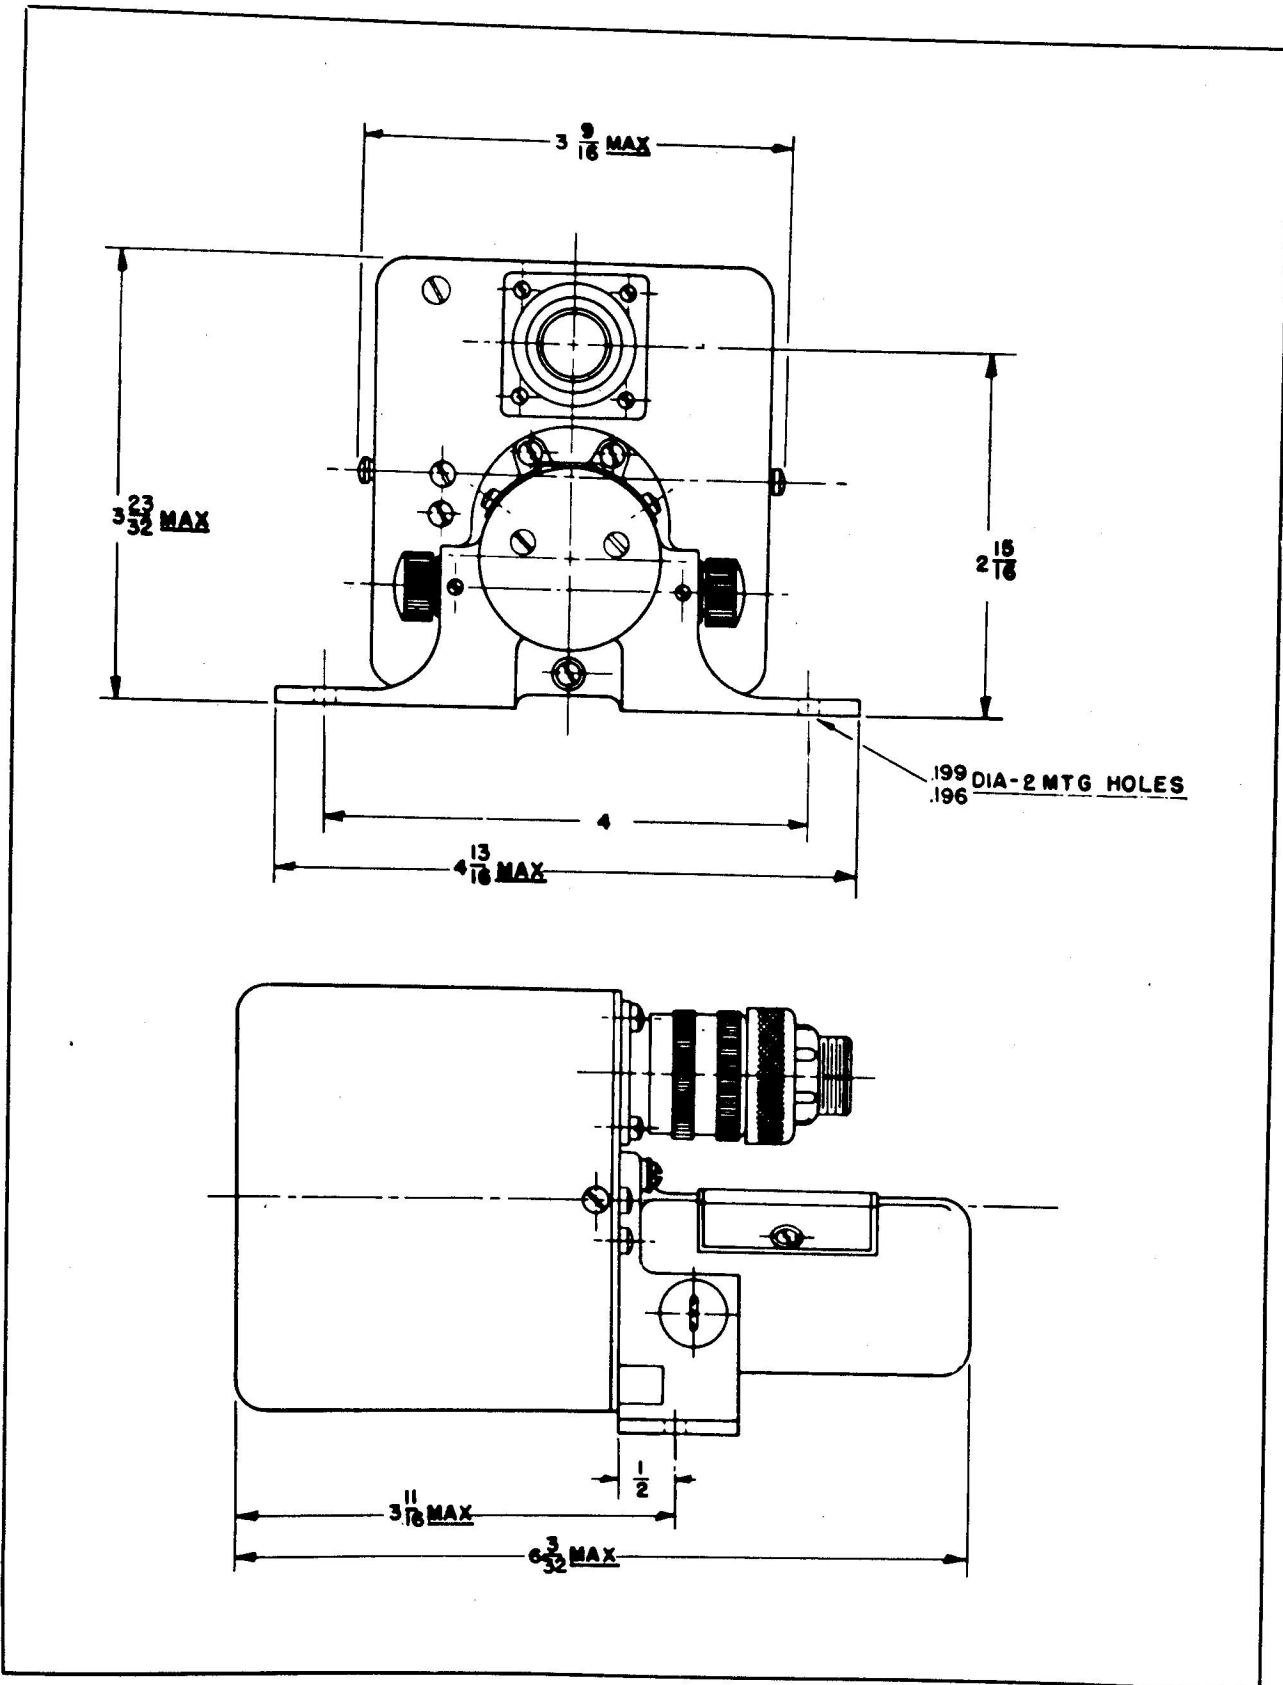

Figure 3-1 - Outlined Dimensional Drawing - Position Light Flasher
5. The overall dimensions of the position light flasher assembly are 6-3/32 x 4-13/16 x 3-23/32. (Figure 3-1.) The total weight is 1.82 pounds.
6. The position light flasher consists of a switching mechanism driven by a constant-speed electric motor compactly assembled in a small unit with all electrical connections made through a single connector plug (6). The motor, enclosed in a separate motor housing (24) is fastened to one side of the gear box and a receptacle for attaching the connector plug (6) is mounted directly above. A gear train is assembled within the gear box. The gear box also holds the actuator assembly (18). The gear box cover plate (10) forms the mounting plate for cam-operated flashing switches composed of the contact screws (11) and the breaker arms (14), and for the micro-switch (17). A readily removable dust cover encloses the gear box, the capacitor (9), the cam-operated switches, micro-switch and the wiring cable, effectively protecting them against mechanical injury and the entrance of dust or splashed water. Flasher assembly 554230 also has a relay (25), enclosed under the dust cover to provide a double flashing rate.
1. The position light flasher may be mounted in any available location. However, since periodic inspections must be made, accessibility should be considered in selecting a location. While the unit is designed to operate satisfactorily in any position, it is recommended that the motor shaft be kept in a horizontal plane, thereby reducing the thrust load on the motor bearings. The supporting member to which the unit is mounted should be sufficiently rigid to avoid resonant vibration at any frequency that might occur in normal operation of the air-craft. Space requirements are shown by the outline dimensional drawing in figure 3-1.